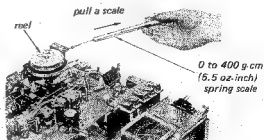

Fig. 3-12. FWD and REV back tension torque adjustment
2. Measure the back tensions by pulling the 0 to 400 g (14 oz) spring scale at approximately 9.5 cm/s (3-3/4 ips) speed in FWD [REV] mode. See Fig. 3-12. It should be 200 to 240 g-cm (2.78 to 3.32 oz. inch).
2. Measure the back tension by pulling the 0 to 400 g (14 oz) spring scale at approximately 9.5 cm/s (3-3/4 ips) speed in FF [REW] mode. See Fig. 3-12. It should be 60 to 80 g.cm (0.83 to 1.1 oz.inch).